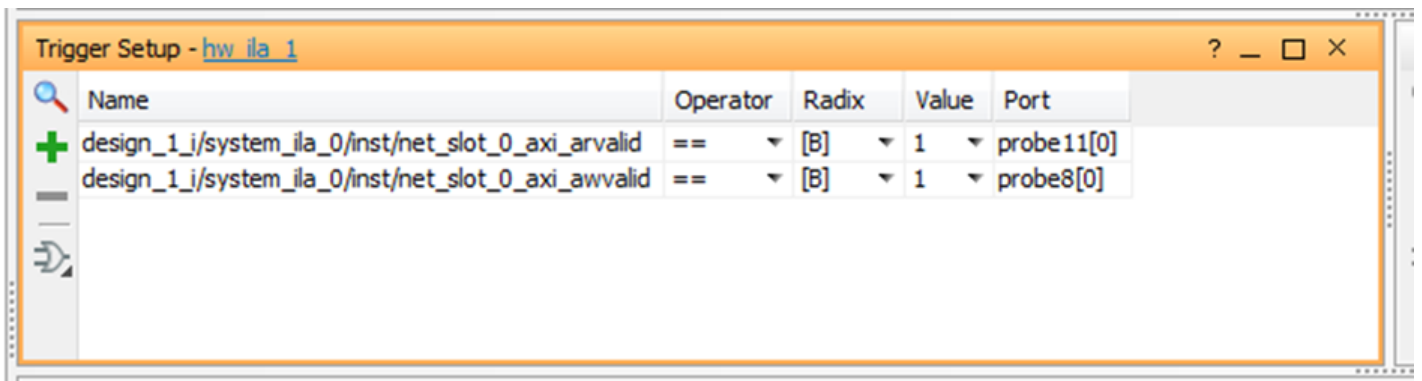

Figure 6 - Trigger Setup
Step 2: Open Hardware manager and set up the trigger as per the screen capture shown in Figure 6.